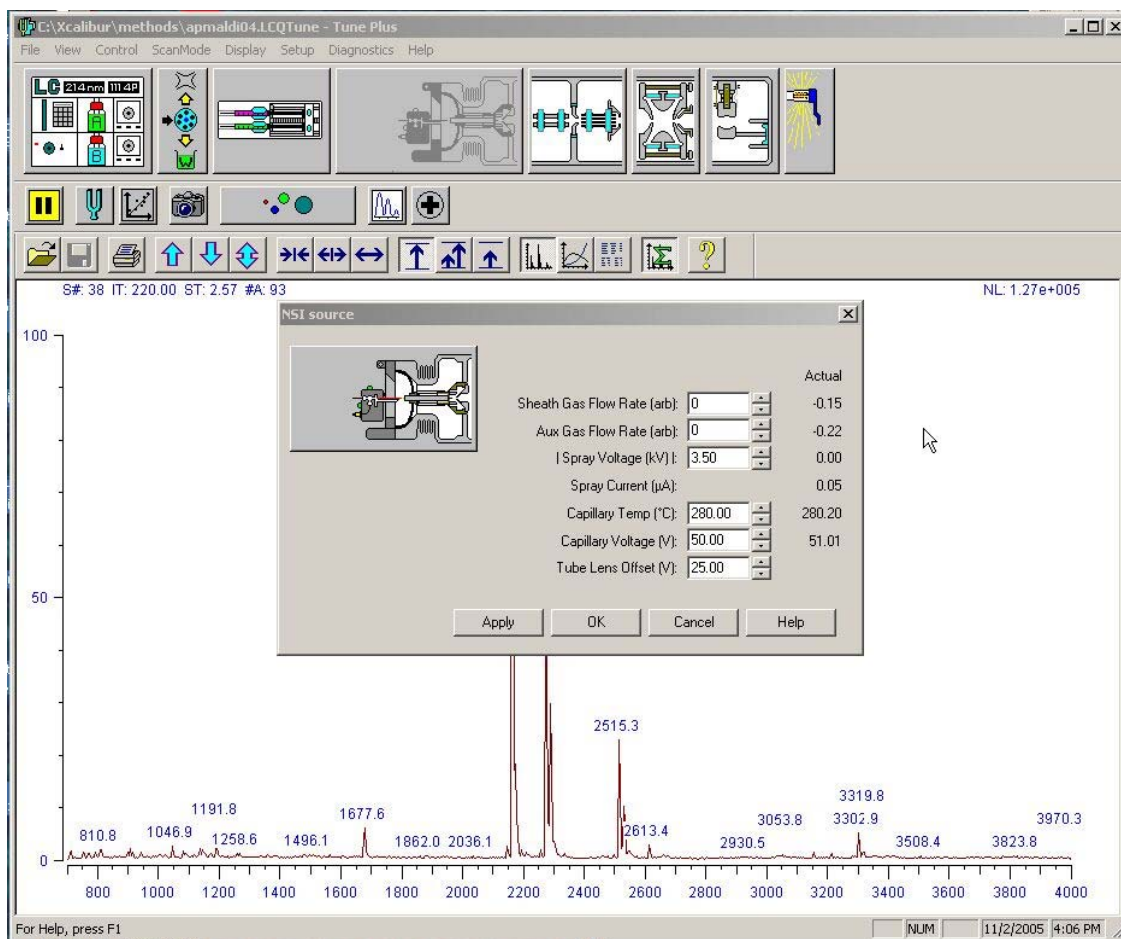

Fig. 7-16 Good parameters for the capillary HV (3-3.5 kV) and Capillary Temperature (200-280⁰ C) in the ion trap are shown above.
- The selection of nanospray (NSI) source enable to switch off Sheath and Aux gas flow off (Fig. 7-16). Generally, AP/MALDI source does not consume any gases. Use Setup -> Change API source Type menu to configure LCQ for NSI.
- **Capillary Temperature settings:** The heated capillary is used to evaporate the clusters formed during the MALDI process. The capillary temperature is typically set to 200°C to 280°C (Fig. 7-16).